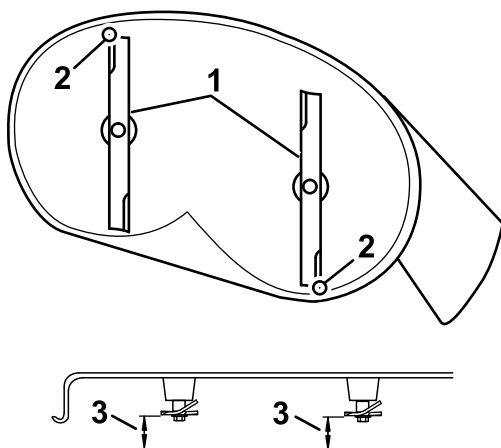

Figure 62
4. Carefully rotate the blades so they are facing front to rear (Figure 62).
5. Measure from the tip of the front blade to the flat surface and the tip of the rear blade to the flat surface (Figure 62).